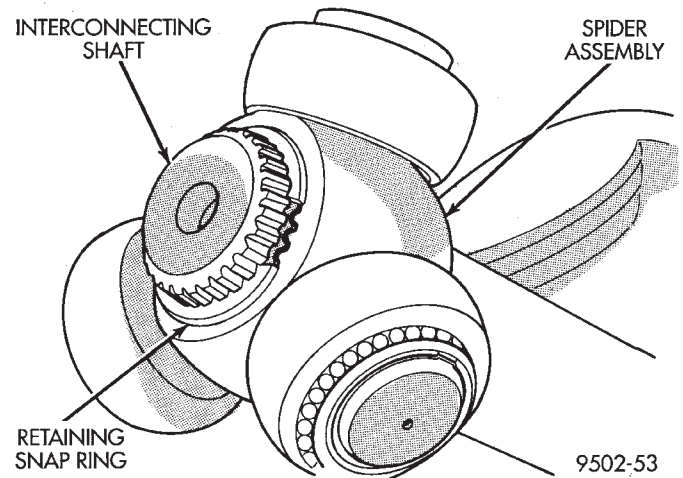
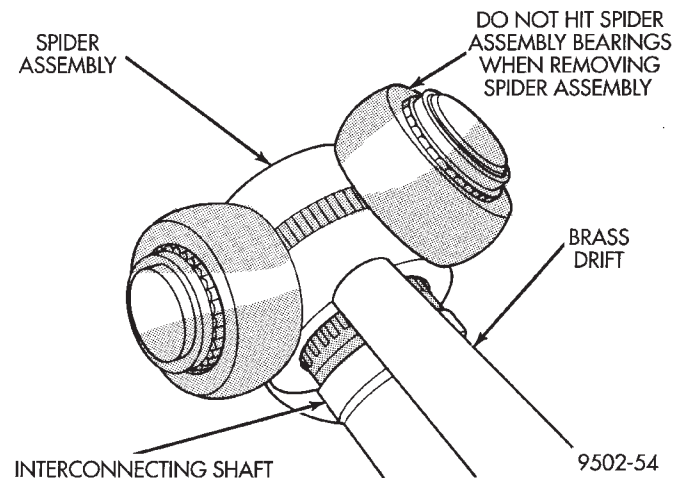

Fig. 28 Spider Assembly Retaining Snap Ring
Fig. 29 Spider Assembly Removal from Interconnecting Shaft
(4) Remove snap ring which retains spider assembly to interconnecting shaft (Fig. 28). Remove the spider assembly from interconnecting shaft. If spider assembly will not come off interconnecting shaft by hand, it can be removed by tapping spider assembly with a brass drift (Fig. 29). **Do not hit the outer tripod bearings in an attempt to remove spider assembly from interconnecting shaft.**
(5) Slide sealing boot off interconnecting shaft.